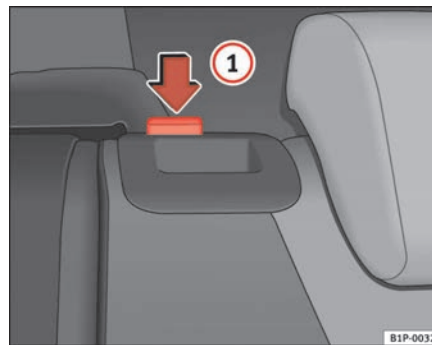

Fig. 94 Folding up the rear seat back.
- Fold the backrest back and push the backrest firmly into the lock. The red marking should no longer be visible ⇒ fig. 94.